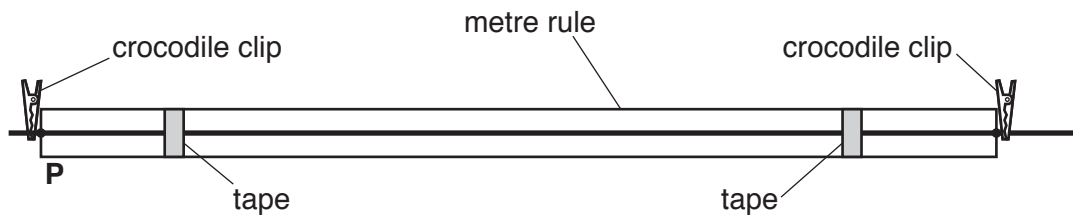

Fig. 2.2
4. The wire must be attached to the metre rule as shown in Fig. 2.2.